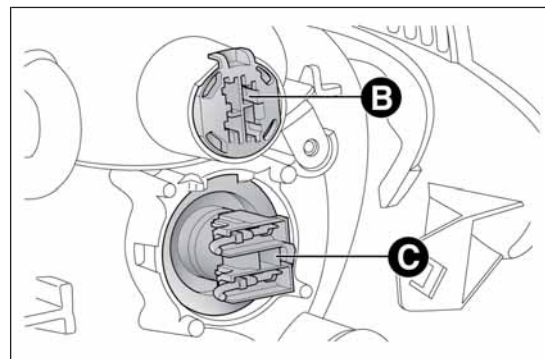

fig. 133
- ☐ remove bulb holder B fig. 133, remove the bulb and replace it;
- ☐ remove bulb holder C fig. 133, remove the bulb and replace it;